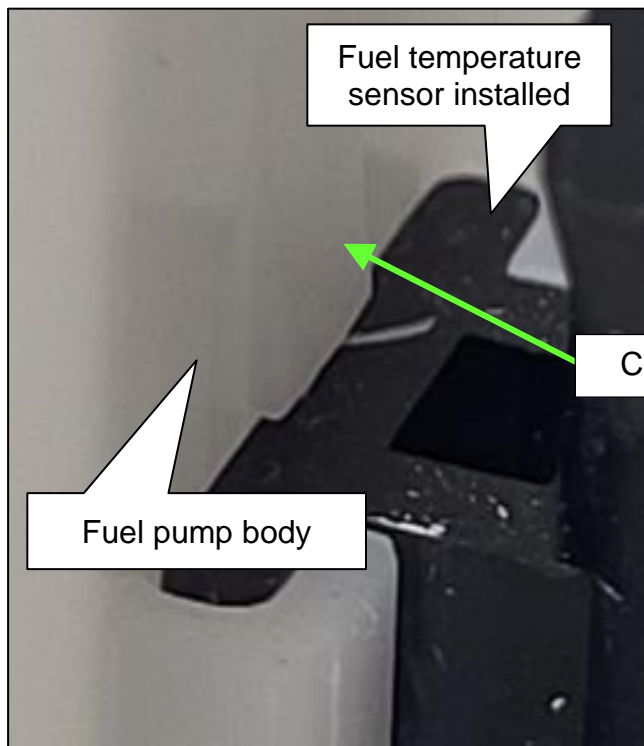

Figure 8
- Figure 8 shows the fuel temperature sensor in the installed position.